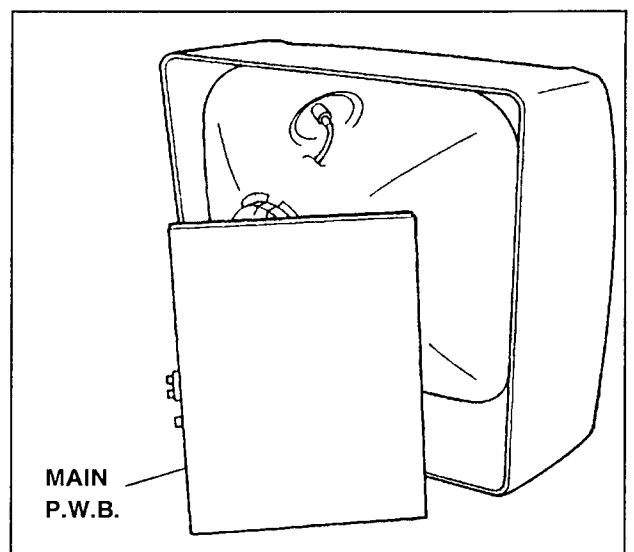

Fig. 3
- * As shown in Fig. 3, set the removed chassis upright.